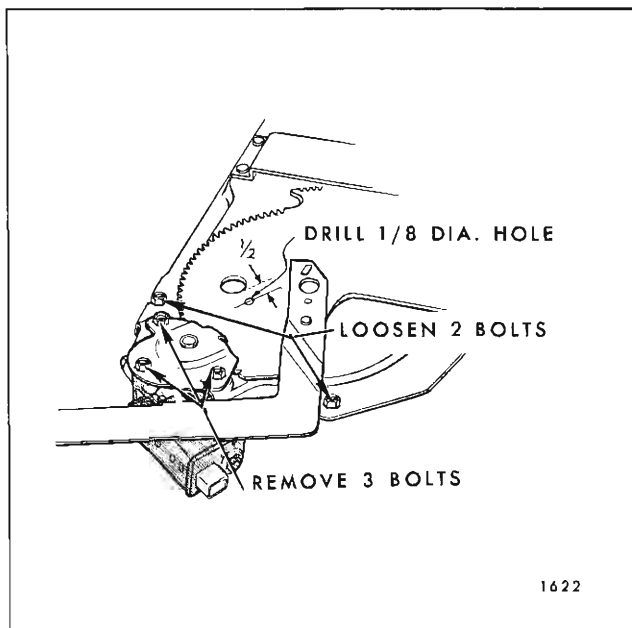

Fig. 1F28—Tail Gate Regulator Motor Assembly
**NOTE:** To operate tail gate window with tail gate in an open position (electrical styles), depress jamb switch (Fig. 1F24) and operate control switch (instrument panel).